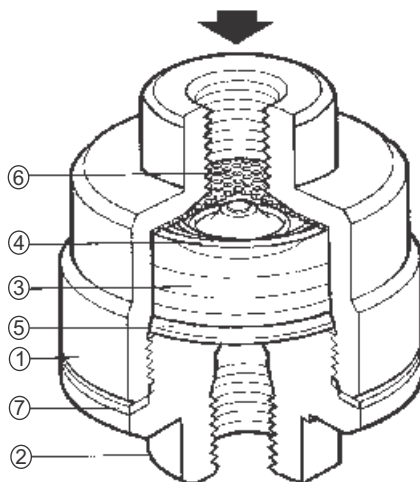

Figure 1 : Forbes Marshall Instrument Tracer Line Trap
4.1 Operations of Forbes Marshall Instrument Tracer Line Trap : (Refer Figure 1)
7.4. Procedure to fit or replace the internals set: (Refer Figure1)